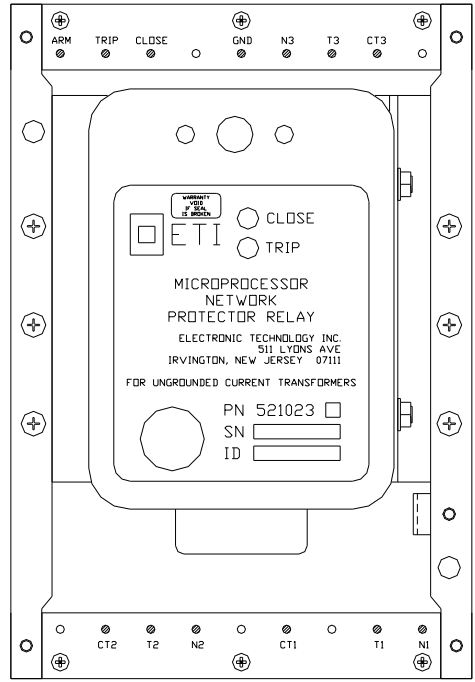

Figure 3: WH Relay
- D. Using the provided fused jumper, connect the Arm and Trip contacts on the network protector relay socket (1 and 2 on WH, 3 and 1 on GE -- See Figures 3 and 4). The protector should trip.
- D. Using the provided fused jumper, connect the Arm and Close contacts on the network protector relay socket (1 and 3 on WH, 3 and 2 on GE -- See Figures 3 and 4). The mechanism should **NOT** pick up.
- F. Using the provided fused jumper, connect the Arm and Close contacts on the network protector relay socket (1 and 3 on WH, 3 and 2 on GE -- See Figures 3 and 4). The protector should close.